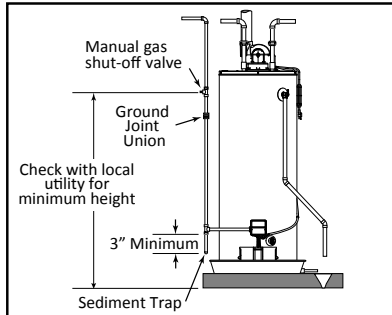

Figure 10 - Gas Piping
2. Install a Sediment Trap as shown in the Gas Piping figure (Figure 10). The Sediment Trap must be no less than three inches long for the accumulation of dirt, foreign material, and water droplets.